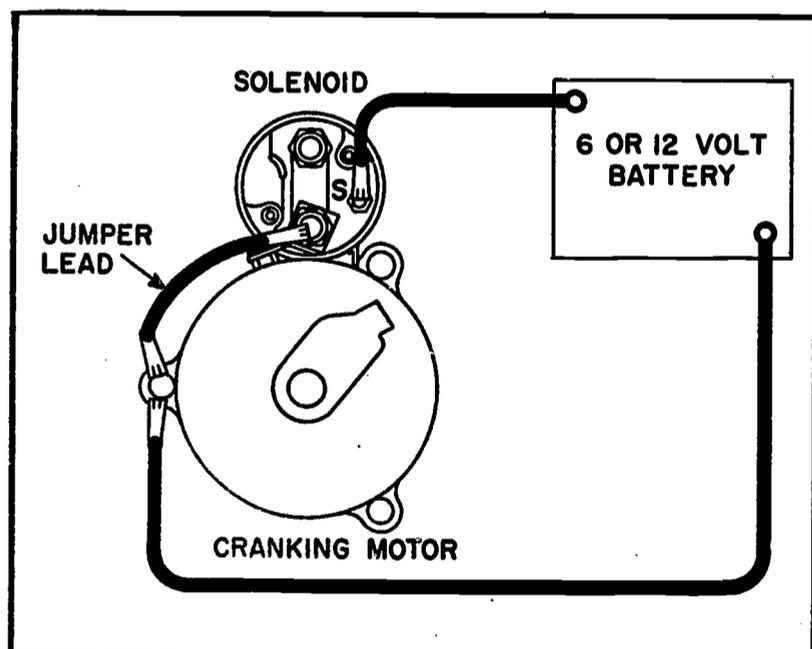

Fig. 10 Circuit for checking Sprag clutch pinion travel.
**SPRAG CLUTCH CHECK** - To check the pinion clearance, connect a battery from the solenoid switch terminal to the motor frame. If the solenoid does not operate, use a 12 volt battery. Also to prevent motoring, connect a heavy jumper lead from the solenoid terminal to the motor frame. See Figure 10.